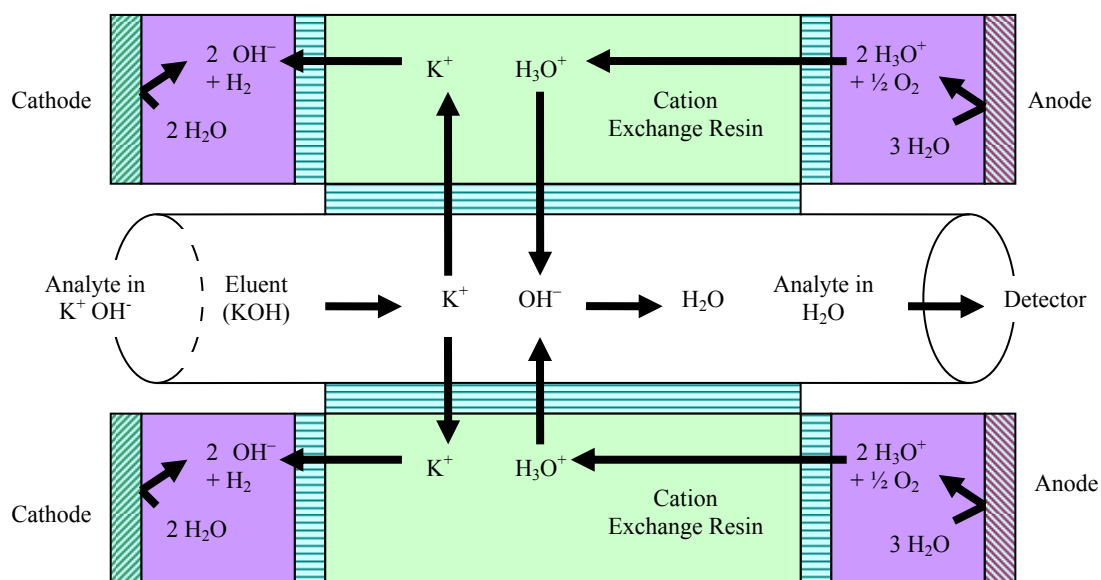
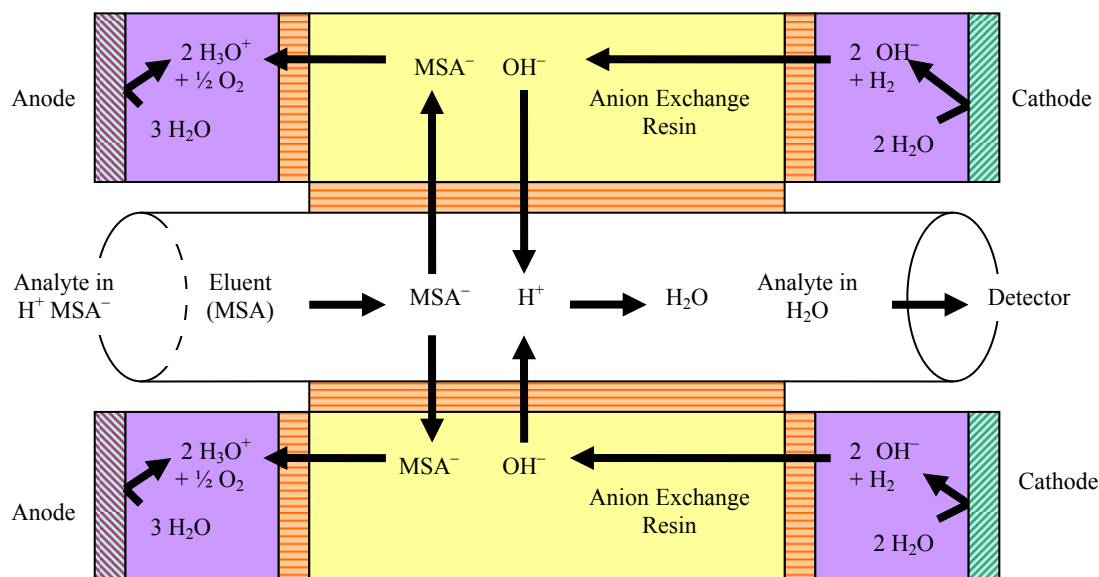

Figure 2
Figure 3
There are two electrode chambers that are separated from the eluent chamber by ion-exchange membranes. The deionized water stream, after passing through the ion-exchange bed in the eluent chamber, passes through the cathode and anode chambers serially. When current is passed through the electrodes, the regenerant ions are generated in the first electrode chamber; these ions migrate into the eluent chamber via an electric field, maintaining the ion exchange bed in the eluent chamber in the regenerated form. After co-ions exchange from the eluent ion exchange capillary, the co-ions are pushed out of the eluent chamber via the electric field into the second electrode chamber. Finally, these co-ions are neutralized by the ions generated in the second electrode chamber. The eluent suppression process is illustrated for Anion Suppressor in Figure 2 and for Cation Suppressor in Figure 3.
- D. Connect this tubing to the union on the end of the tubing exiting the REGEN IN port of the capillary suppressor cartridge (Figure 3). (This is a temporary connection.)